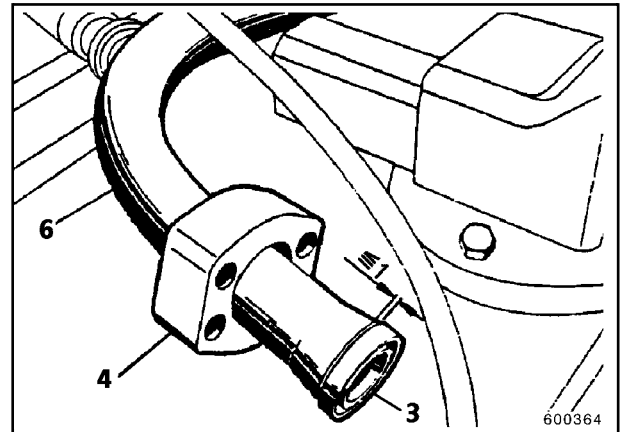

Fig. 6
6. Push Z-ring hydraulically into pipe until shoulder of ring lies up against end of pipe (Fig. 6). Inserting the ring stretches the pipe, whereby the circular cutting edges of the Z-ring cut into the pipe wall.